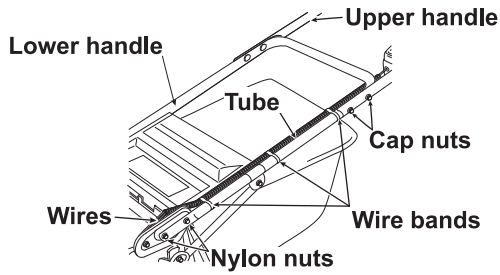

Fig. 1
1. Install the lower handle to the machine (with 4 nylon nuts). (See Figs. 1, 2 and 3)